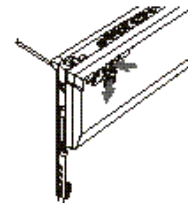

Figure 5-4 Unlatching the Detachable Bay
5. While keeping firm hold of your notebook with one hand, slide the Docking Lock Switch to the unlocked position. (See Figure 5-4.)
7. While keeping a firm hold of your notebook with one hand, slide the Docking Lock Switch to the unlocked position. (See Figure 5-4.)